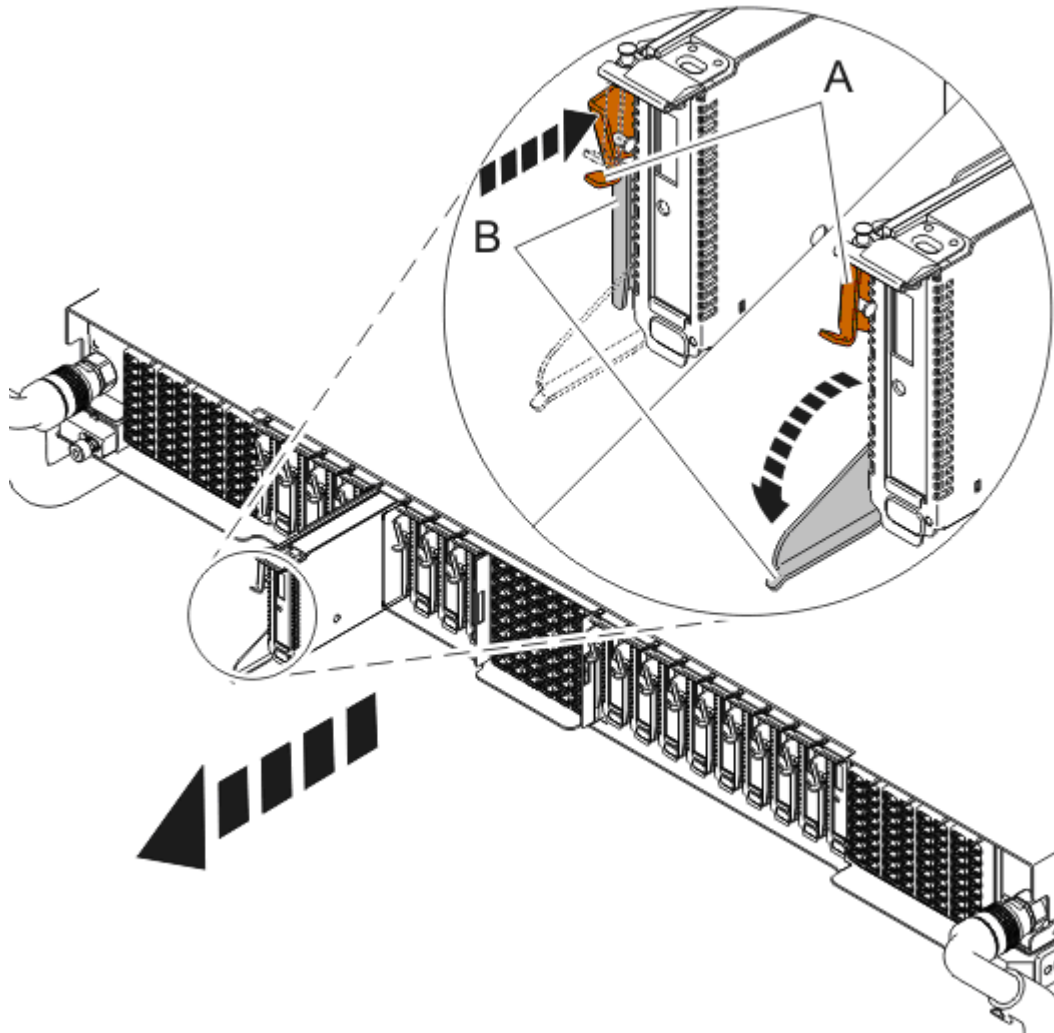

Figure 15 Removal of Utility Non-Volatile Storage Assembly from slot
STEP 31 Remove the Utility Non-Volatile Storage Assembly and SAS Jumper Cable – note use the location as identified in STEP 10, screen captures in this document are for reference only. Only remove the SAS Jumper Cable going to the drive identified in STEP 10 to be replaced. Removing the other SAS Jumper Cable can cause the Service Node to crash. See Figure 15.
- b. Push the clasp (A) to release the black locking lever
- c. Rotate the black locking lever (B) in the direction shown to unseat the UNVSA